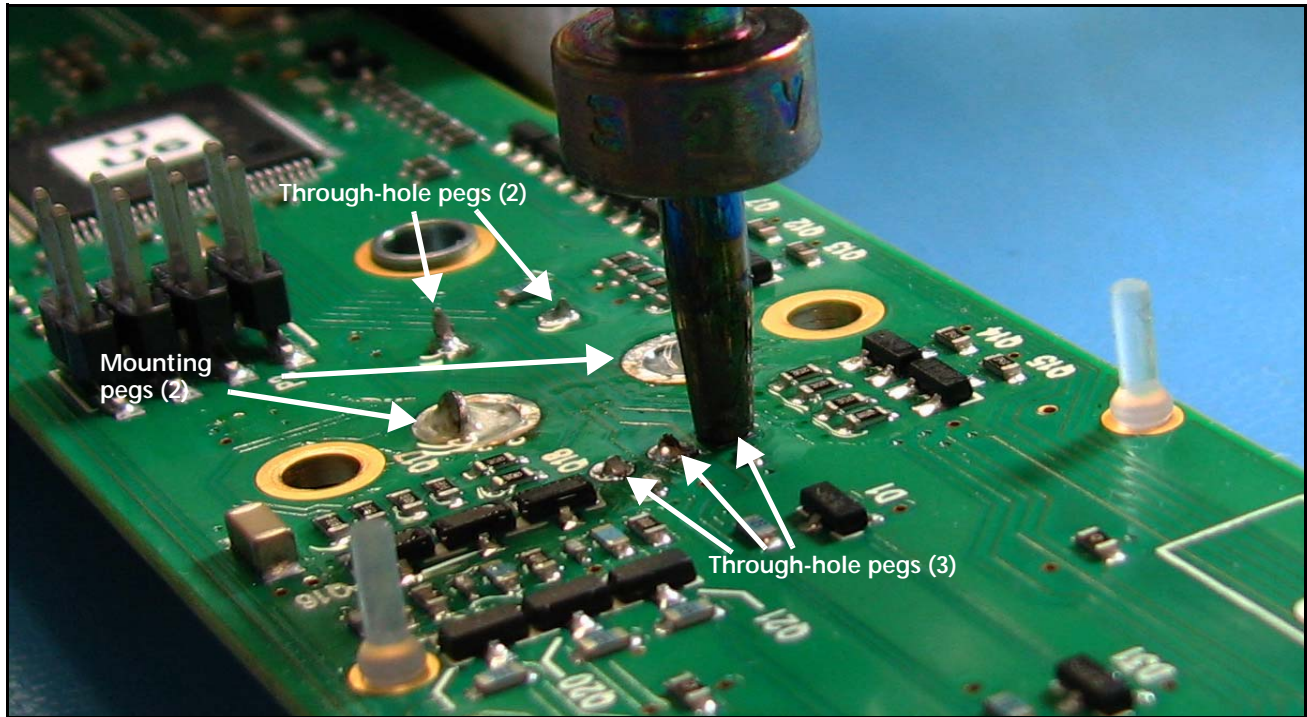

Figure C-15 De-soldering Encoder Pegs
- 4 From the back side of the circuit board, de-solder the two mounting hole pegs and the five through-hole pegs, using a solder sucker and wick (Figure C-15).